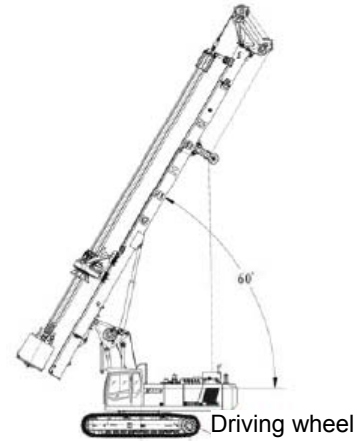

Fig. 5-11 Reference diagram of drilling rig postures during borehole site transfer
- (1) Check whether the emergency stopping button is reliable.
- (2) Adjust the kelly bar center to the maximum allowable dimension in operation state (maximum derricking state); set the rotary drive and drilling tool at the lowest position.
- (3) Make the mast lean back at an angle of about 30°, and then draw back the drilling rig to a proper position (see Fig. 5-11).
- (4) According to the operation process of "5.1 Chassis", adjust the position of drilling tool and the chassis properly, and then the transferring of drilling rig between borehole sites and preparation for new borehole operation can be achieved.